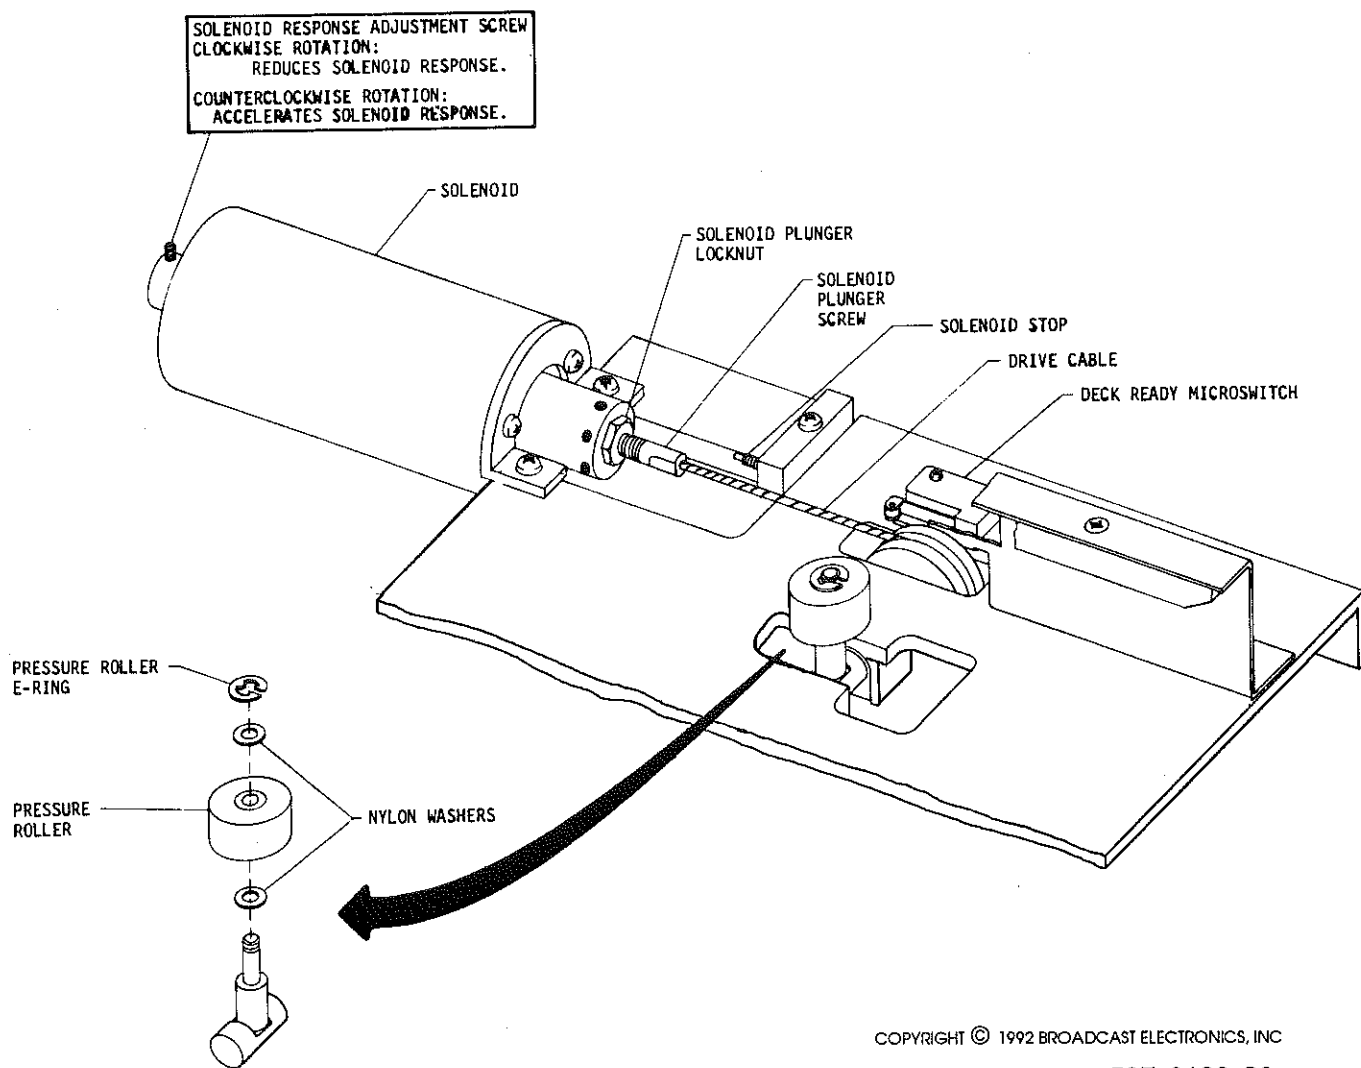

FIGURE 5-1. CARTRIDGE DECK ASSEMBLY
- 5-23. Manually retract the deck solenoid plunger (refer to Figure 5-1) and remove the pressure roller E-ring, pressure roller, and the nylon washers.
- 5-86. Refer to Figure 5-1 and manually retract the solenoid plunger.
- 5-87. Remove the pressure roller E-ring, the pressure roller, and the nylon washers (refer to Figure 5-1).
- 5-88. Refer to Figure 5-1 and replace the washers, the pressure roller, and the pressure roller E-ring.